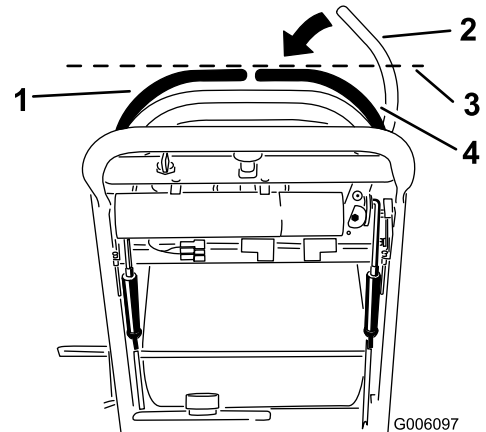

Figure 54
3. Push the right motion control lever down out of locked neutral position (Figure 54).
4. Check if it aligns horizontally with the left motion control lever (Figure 54).